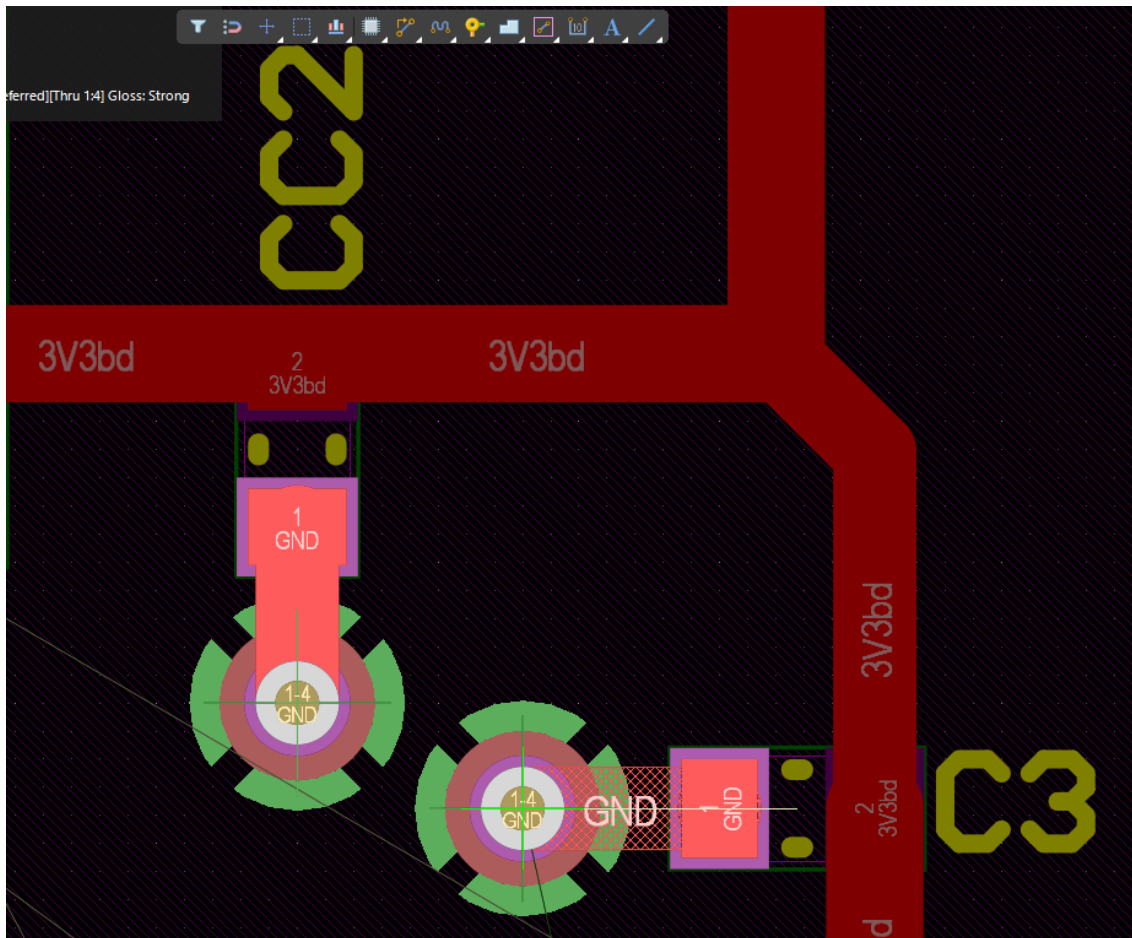

Figure 5. Press 2 for 'Add Via No Layer Change'
- e) Press **2** (Add Via No Layer Change), a Via is attached to your mouse, as seen in Figure 5. Use the regular '2' key, not from the Numeric keypad.